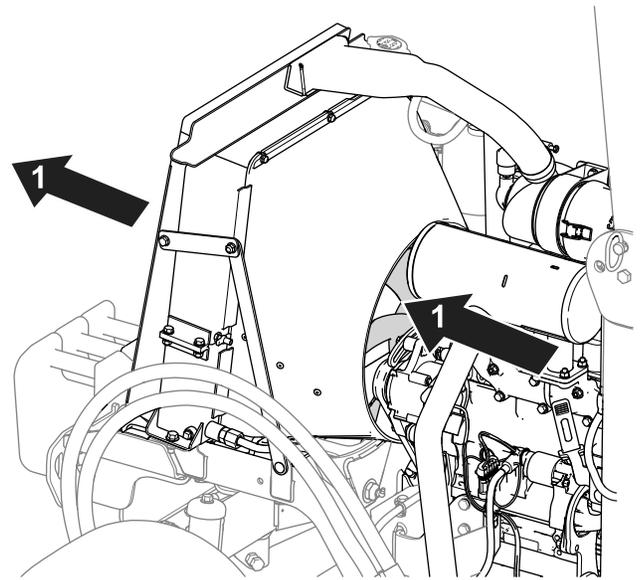

Figure 75
- Use compressed air to clean the radiator fins. Direct the air out from the machine (Figure 75).